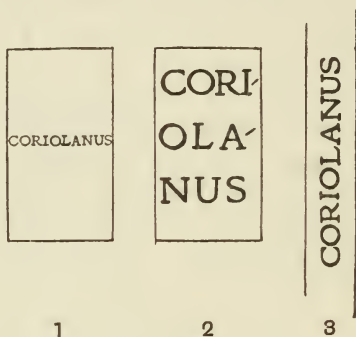

FIG. 95.
As a general rule, lettering looks best if it comfortably fills the panel, but of course it cannot always be made to do this. The greatest difficulty will be found in making titles of books that consist of a single word, look well. Thus if you have "CORIOLANUS" to place on a back which is not more than  $\frac{5}{8}$ -inch wide, if it is put across as one word, as at fig. 95 (1), it will be illegible from the smallness of the type, and will tell merely as a gold line at a little distance. If a reasonably large type is used, the word must be broken up somewhat, as at (2), which is perhaps better, but still not at all satisfactory. The word may be put straight along the back, as at fig. (3), but this hardly looks well on a book with raised